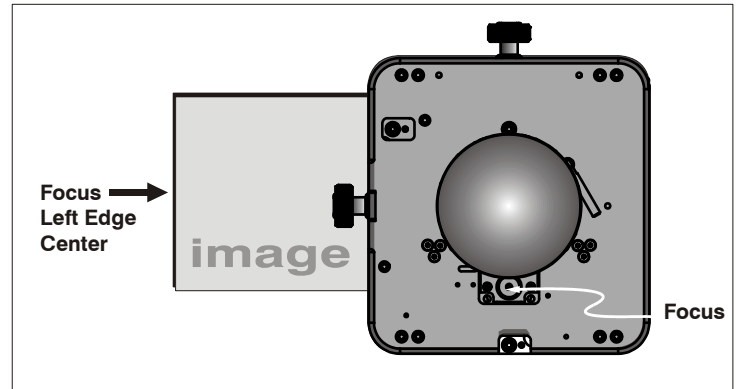

Figure 4-2 Adjust Focus
3. Adjust the **Focus** using the focus knob to retract the lens. (**Figure 4-2**) Watch the image at the left edge of the screen until it comes into focus. If the entire screen is in focus, proceed to step 7.